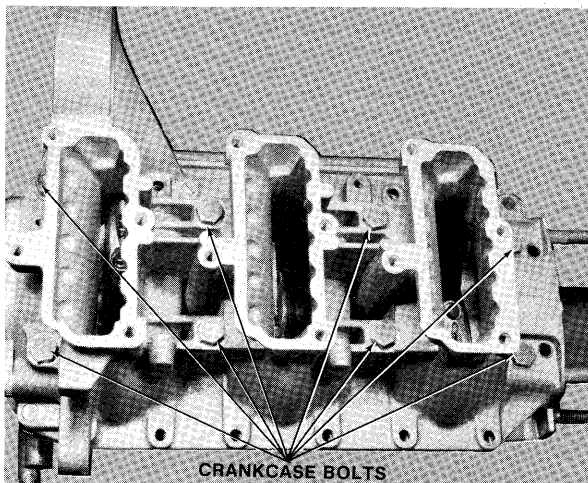

Figure 12—Crankcase Bolt Locations
- N. Install crankcase cover on cylinder. Drive in two (2) dowel pins to locate crankcase cover on cylinder. Apply sealant (Special Tool T8955) on threads of crankcase bolts. Install bolts as shown in figure 12. Torque bolts to 270 In. Lbs. from center of crankcase and outward.